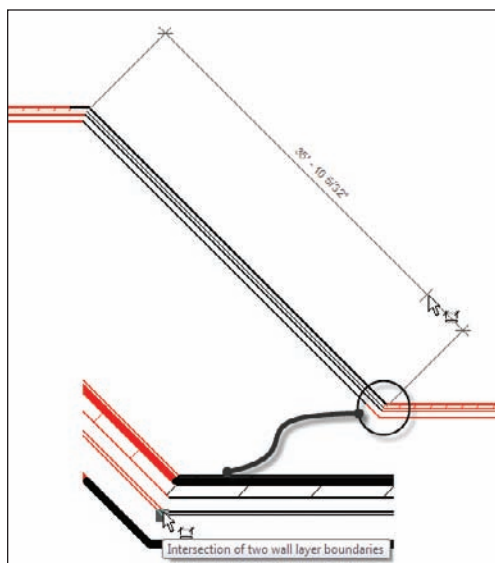

FIGURE 5.11 Picking the second point along the wall and placing the dimension
9. Hover your cursor over this core intersection, as shown in Figure 5.11.
12. Now the dimension is following your pointer. Pick a third point about 8' away from the angled wall, as shown in Figure 5.11.